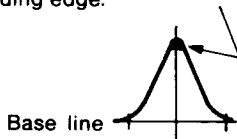

Fig. 5
1. Feed in a weak signal to L104 from the genescope. Adjust T101 for maximum gain and the waveform indicated in Fig. 5. If the center of the waveform cannot be lined up on the marker, adjust the right/left balance.